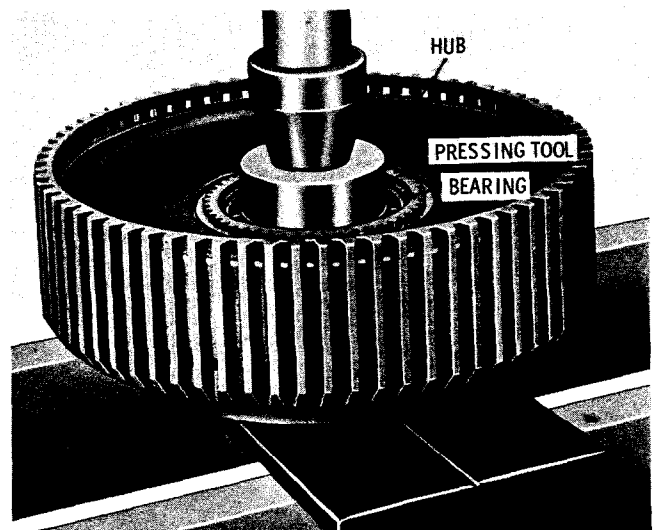

Fig. 7-50. Installing low-splitter clutch hub
(19) Install the low-splitter clutch hub over the splitter planetary carrier, indexing the splitter sun gear with the splitter carrier pinions (fig. 7-50). Support the carrier on a press and place a pressing tool on the inner race of the bearing. Press the bearing onto the hub of the carrier.